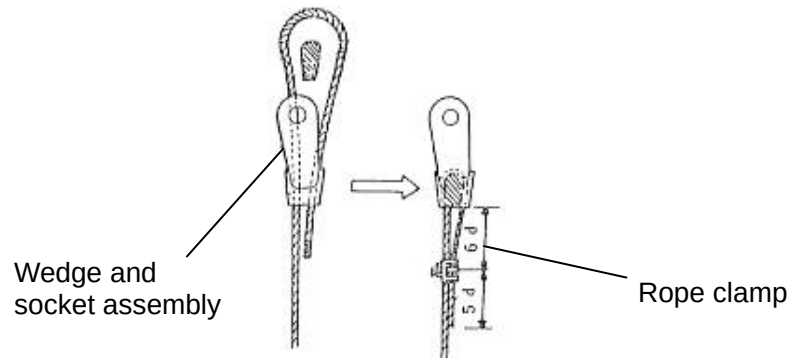

Figure 07 – 14 Socket with Rope Clamp
- A. The boom has four parts to it: a basic boom and three telescopic sections. The basic boom section attaches to the superstructure with a pivot connection. The three telescopic sections move together to increase the length / range of the boom. Refer to Figure 07 – 15.